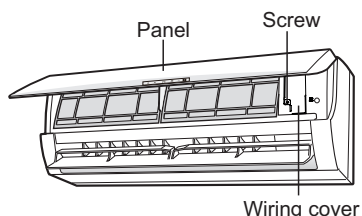

Fig.11
- (1) Open the panel, remove the screw on the wiring cover and then take down the cover.(As show in Fig.11)